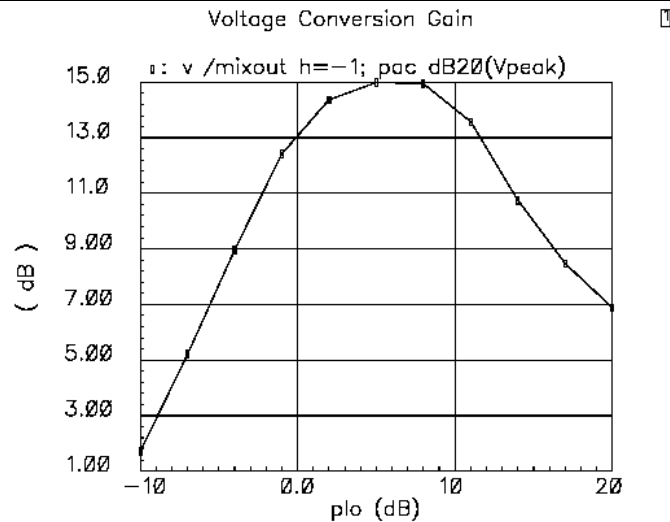

Fig 4: Voltage Conversion Gain versus the LO Signal Power
- You will see the plot as shown in Fig 4.